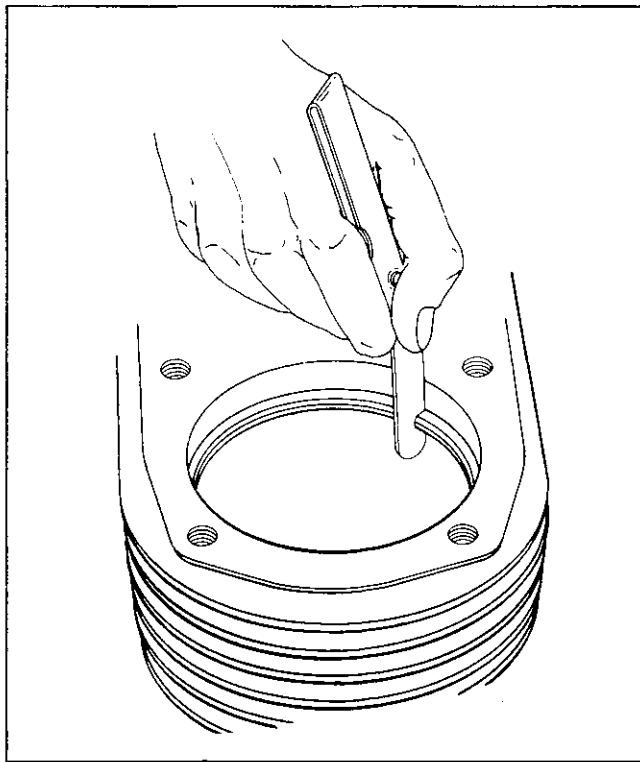

Figure 10-7. Measuring Piston Ring End Gap.
3. Before installing the rings on piston, place the top two rings, each in turn, in its running area in cylinder bore and check end gap (see Figure 10-7). This gap should be **0.75 mm (0.030 in) max.** in a used cylinder bore and **0.3/0.5 mm (0.012/0.020 in)** in a new cylinder bore.